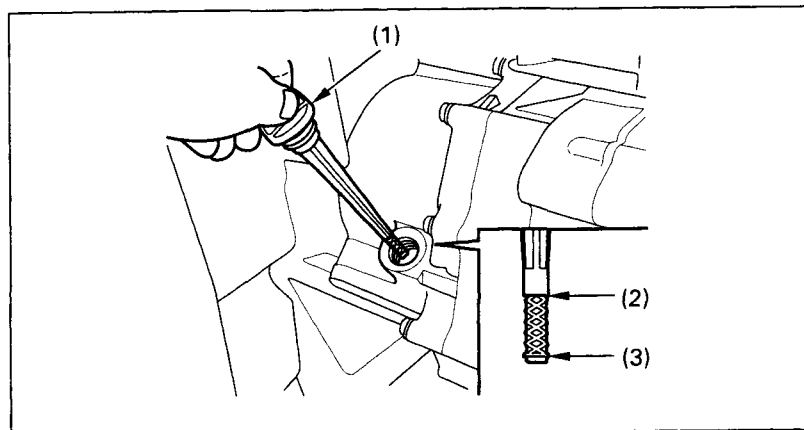

Fig. 4-10 (1) Oil filler cap/dipstick
4. After a few minutes, remove the oil filler cap/dipstick (Fig. 4-10) from the front crankcase cover and wipe it clean.
5. Insert the dipstick without screwing it in, then remove the dipstick and check the oil level. The oil level should be between the upper level mark (2) and the lower level mark (3) on the dipstick.